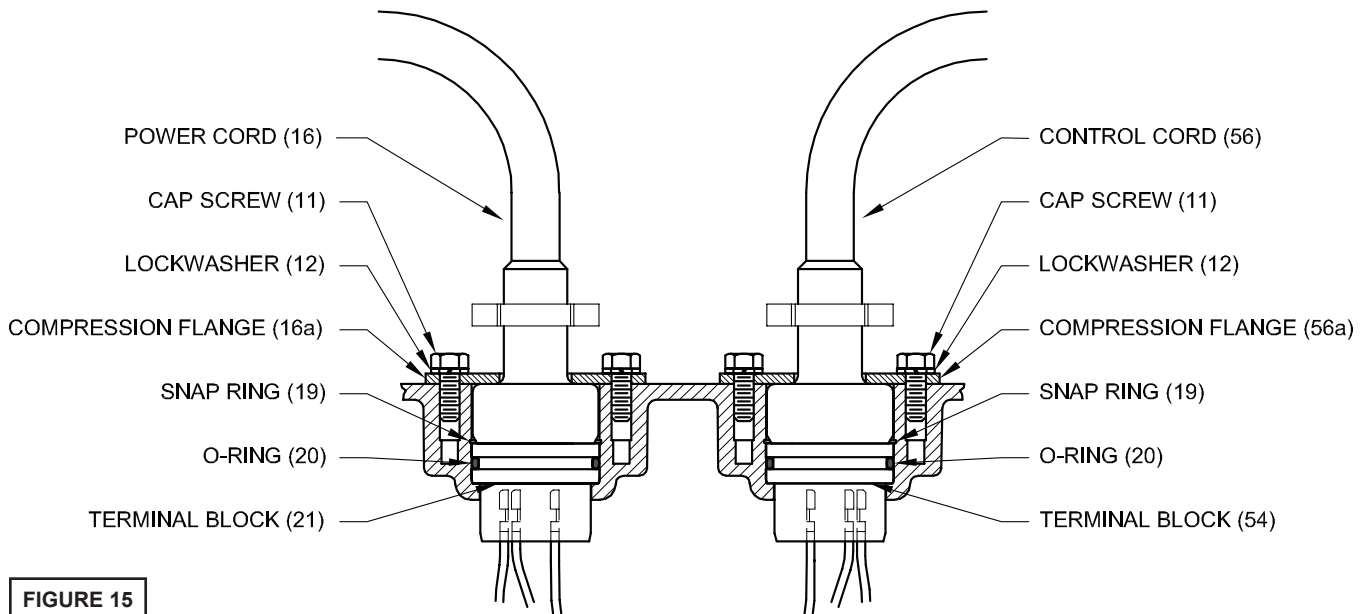

FIGURE 15
Check power cord (16) and control cord (56, if used), for cracks or damage and replace if required (see Figure 15). Make internal wiring connections which are independent of the terminal block as shown, using connectors (48) and wire assemblies (49) as required. Do not use wire nuts. Slip motor leads and ground wire through fiberglass sleeve. Lower motor housing (6) down onto seal plate (5) while aligning holes and stringing motor leads through the cord entry bore(s). (Slipping cords inside a 1 ft. length of .5" conduit makes this easier).
Power/Control Cord - Refill the cooling oil as outlined in paragraph F-1.3. Make wire connections as outlined in paragraph F-4.3. Insert female end of cord plug into housing bore aligning timing mark with hole in terminal block (21) see Figure 15. Compress cord plug with compression flange (16a) by tightening hex bolts (11) into the housing (6). Torque to 132 in-lbs.